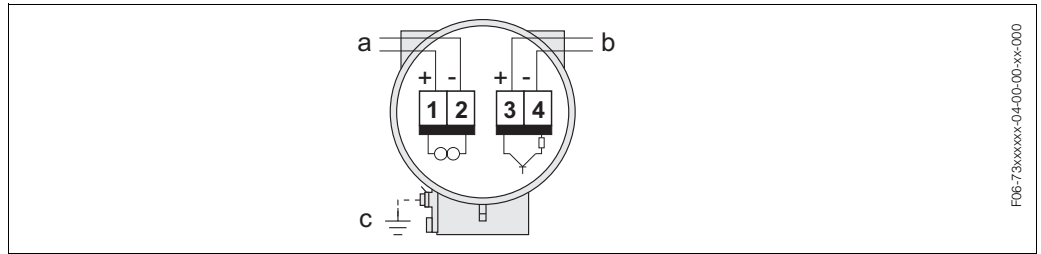

Fig. 17: Assignment of terminals
6. Pull the terminal connector (g) out of the transmitter housing and connect the cable for the power supply/current output (see → Fig. 17).
*Optional: Pull terminal connector (h) out of the transmitter housing and connect the cable for the frequency output (see → Fig. 17).*
8. Only remote version: Secure the ground cable to the ground terminal (see Fig. 17, c).
5. Pull the terminal connector (g) out of the transmitter housing and connect the cable for the power supply/current output (see → Fig. 17).
7. Only remote version: Secure the ground cable to the ground terminal (see Fig. 17, c).